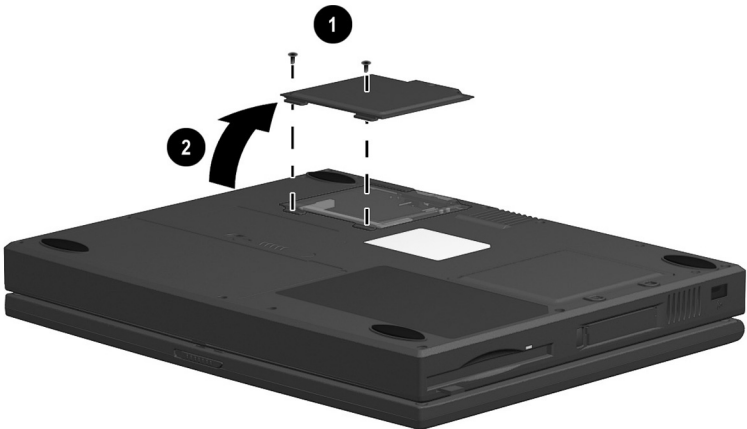

Figure 5-3: Removing the Mini PCI Compartment Cover
3. Remove the screws ❶ that secure the mini PCI compartment cover to the base enclosure (Figure 5-3).
4. Lift up the front edge of the cover and swing it toward the computer rear panel ❷.